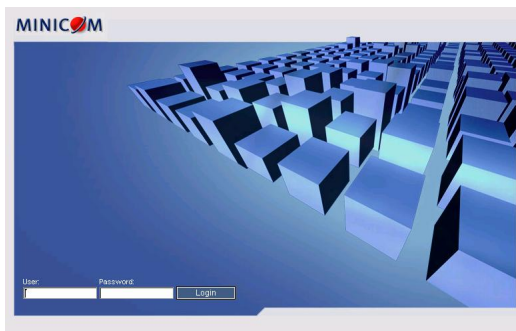

Figure 11 Login page
2. Type the Smart 116 IP system IP address - `https://IP address/config` - and press **Enter**. The login page appears, see Figure 11.